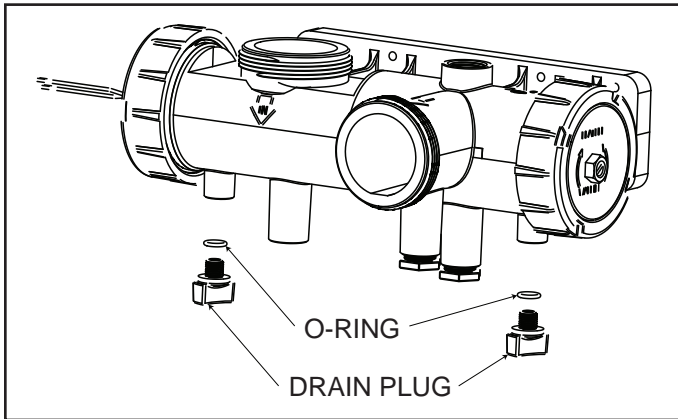

Figure 35. Draining the Heater
4. Remove the drain plugs from both the inlet/outlet header and the return header, see Figure 35 and Sections 11.3 and 11.4, Exploded Views, and completely drain the heater before the first frost.